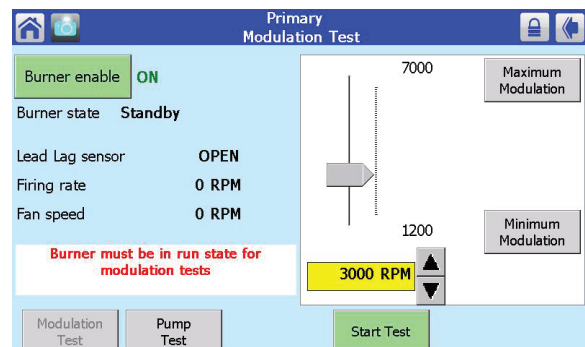

Fig. 132 – Modulation Test
4. Press the button for Diagnostic Tests. The Modulation test allows you to change the rate at which the burner fires, and watch the results. See Fig. 132.